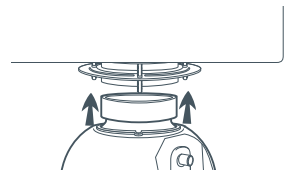

Fig. 9 Engage the waste disposer
- 11 Guide the waste disposer up to the sink flange (fig. 9). Engage the groove of the splash guard around the ridge at the bottom of the sink flange. A slight rocking motion may be required to help ensure a proper fit.